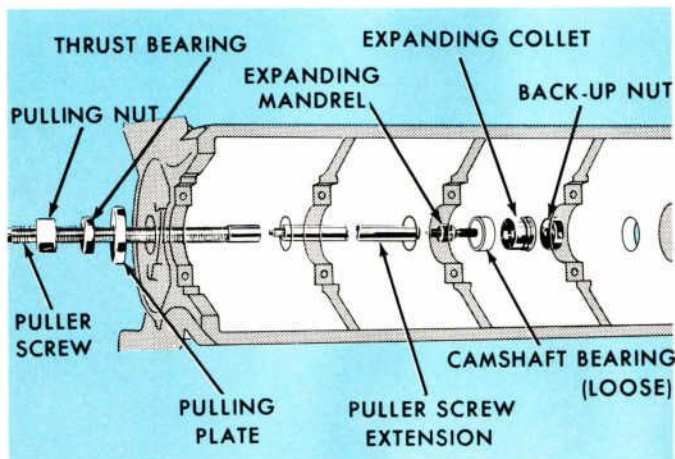

FIGURE A-1. INSTALLING CAM BEARINGS
3. Position the new camshaft bearings at the bearing bores, and press in place. (See Figure A-1.)